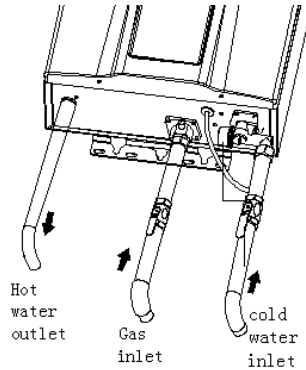

Figure 6.5
2. Remember that water pressure must be sufficient to activate the heater when drawing hot water from the top floor. If the hot and cold connections to the heater are reversed, the heater will not function. 1/2" copper or brass fittings work best when connected to the connectors. No pipe dope or thread tape is to be used at this joint. Be certain there are no loose particles or dirt in the piping (Figure 6.5).